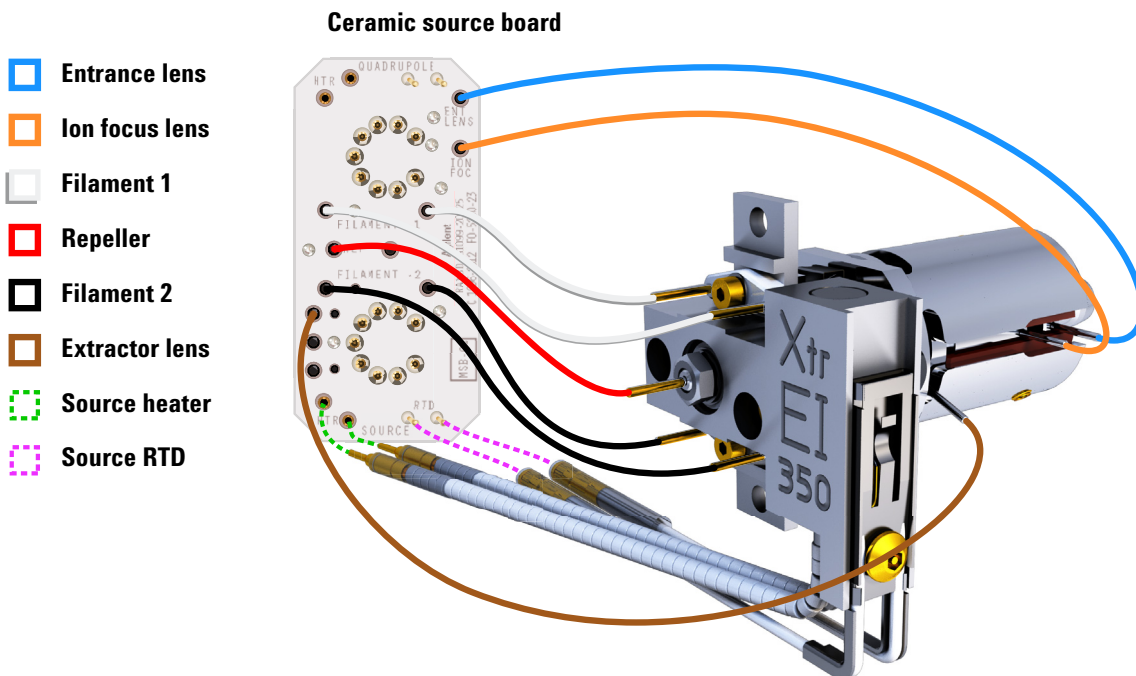

Figure 55 Wiring for the EI HydroInert Source
- 1 Use tweezers or needle nose pliers to connect/disconnect the ceramic source board wire leads at the source connectors. (See **Figure 55**.)